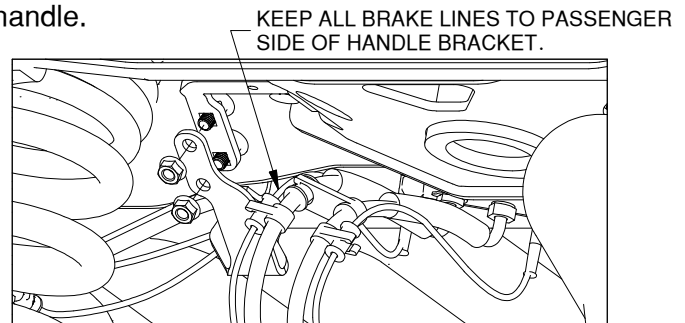

Figure C4: Looking up at frame cross member under truck.
5. **Install the latch pin handle.** Attach the handle to the latching mechanism over the 3/8" carriage bolts with two 3/8" locking flange nuts, see Figure C4. Be sure that the handle is in the proper position and that it does not interfere with any other components of the vehicle. It may be necessary to adjust the handle position by loosening the 3/8" nuts and re-positioning the handle. Torque the nuts to 30 ft. lbs. to secure the handle.
6. **Secure Wiring.** The handle mechanism may contact the sensor wires that run along the brake lines in the area above the differential. Tie the wires down to the brake lines with a wire tie or other secure method to avoid damage to the wires, see Figure C4.